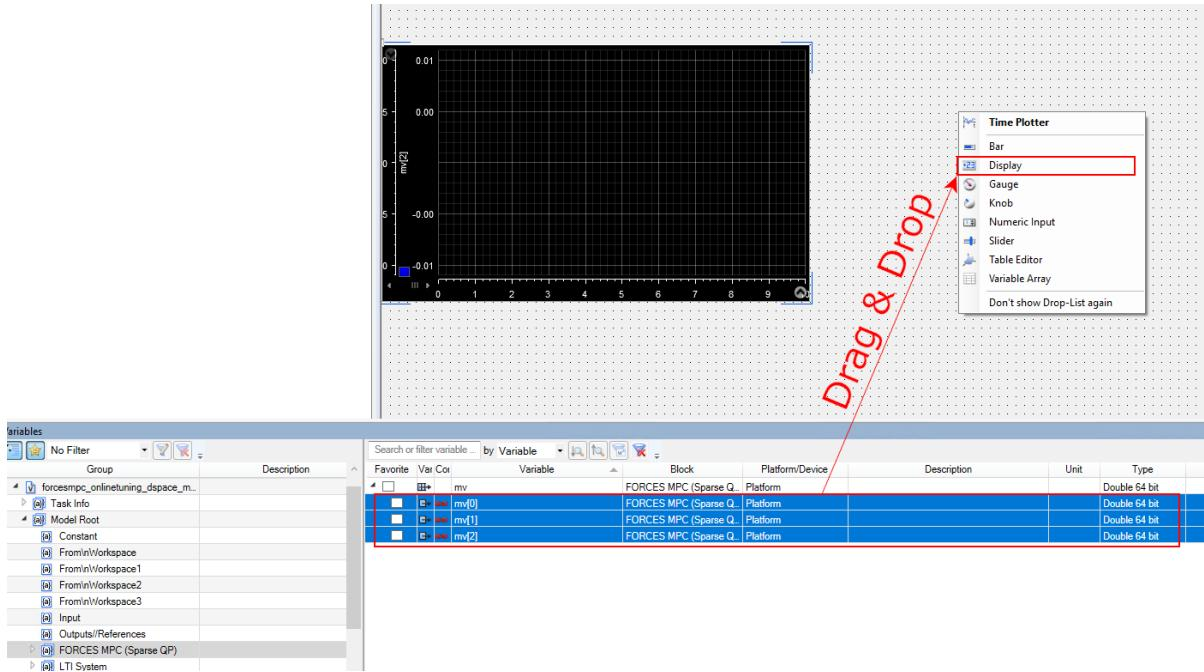

Figure 6.17: Add the variables as displays
- 13) Drag & Drop the output variables again and now choose Display (see Figure 6.17).